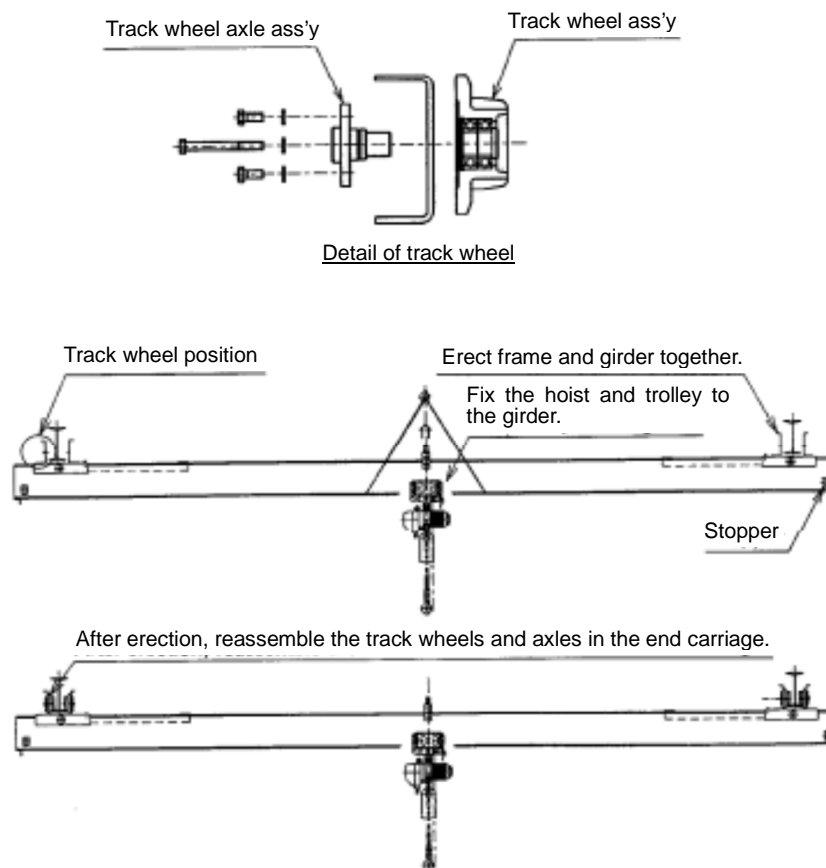

Fig. 1
- (a) Detach all track wheels and axles from the end carriage as shown in Fig. 1.
- (b) Installing as shown in Fig. 1.